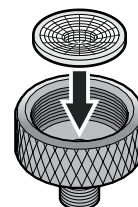

Figure 12
- Insert the water strainer supplied into the valve connector (**Figure 12**).